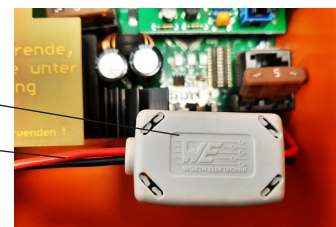
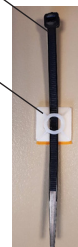

Figure 1
Figure 2
**Note:** The included snap-on ferrite must be placed around the battery connection cable before commissioning (see Figures 1 and 3). For the 2A and 2A/M compact control units, the snap-on ferrite must also be secured to the mounting plate using the included adhesive pad and cable ties (see Figures 2 and 3).